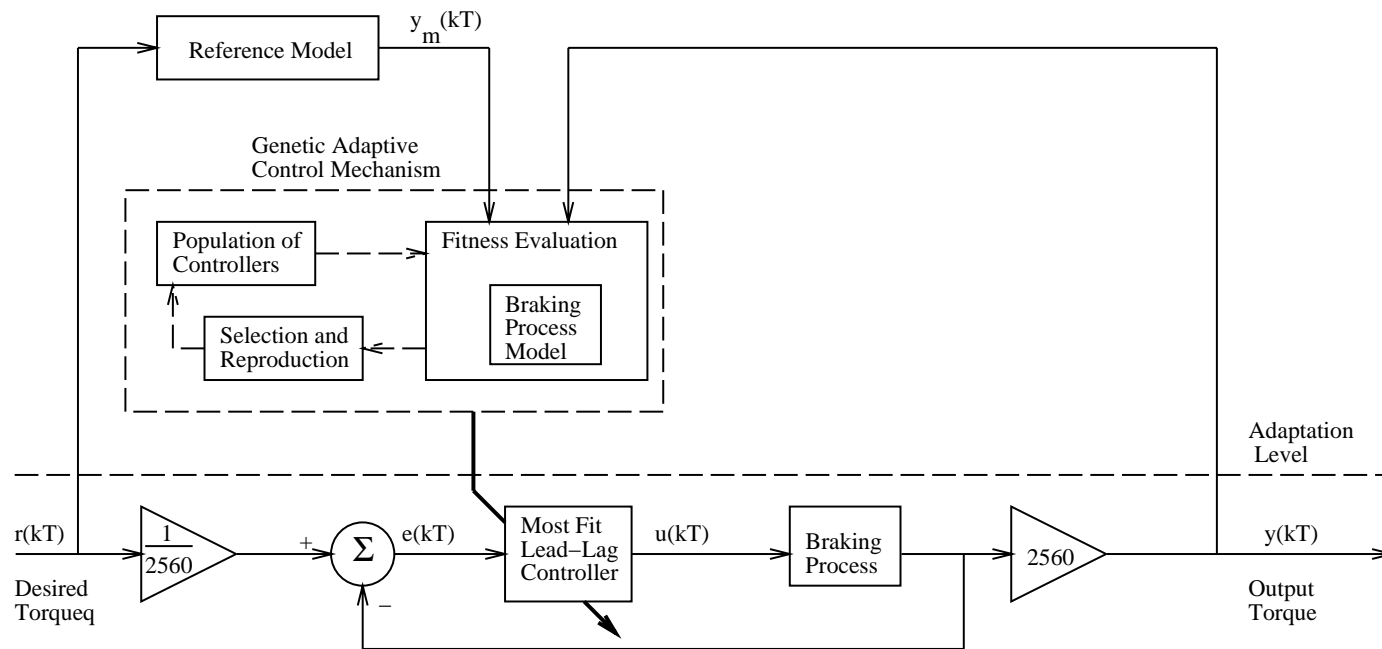

Figure 25: GMRAC for base braking.
- The GMRAC is shown in Figure 25 (it uses a base-10 GA with elitism)